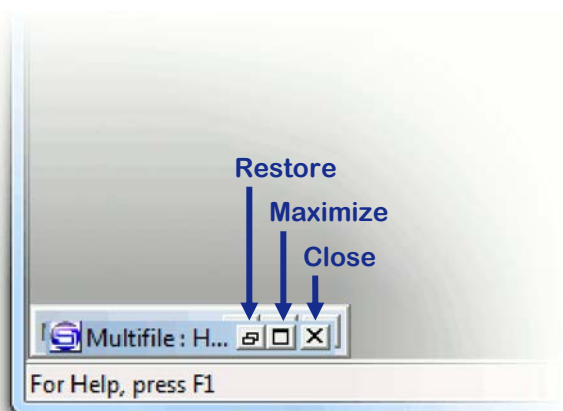

Fig.4.14b. A minimized View sub-window.
- To minimize a sub-window, press the  button. A minimized sub-window is automatically located in the lower-left corner of the working area, as shown in Fig.4.14b.